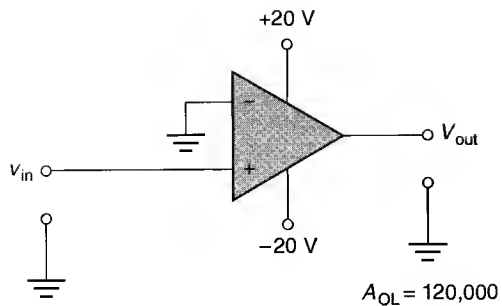

FIGURE 16.34
- Determine the value of V_{ref} for the comparator in Figure 16.34.